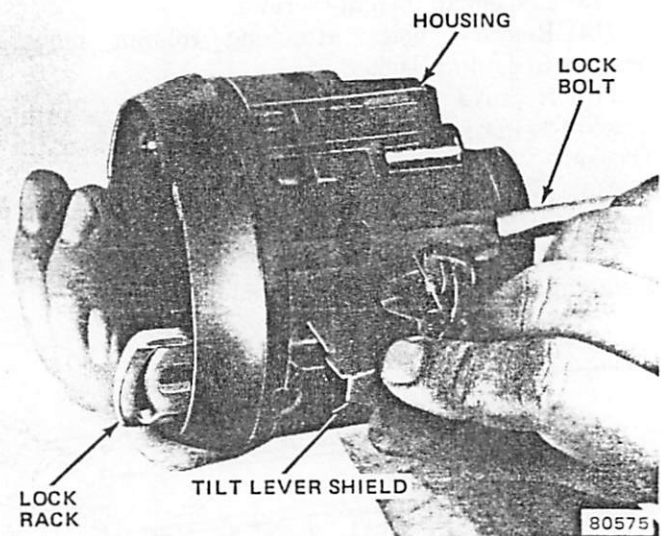

Fig. 2J-54 Tilt Lever Shield Removal
(31) Remove lock sector retaining ring (fig. 2J-55).